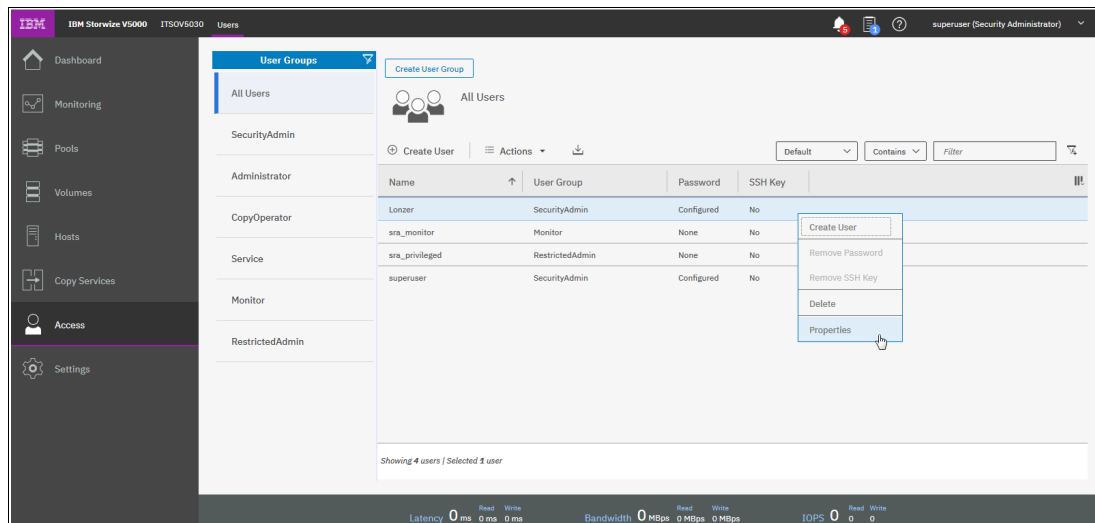

Figure A-8 User properties
2. Under User Groups, select **All Users**. Right-click the user name for which you want to upload the key and click **Properties** (see Figure A-8).